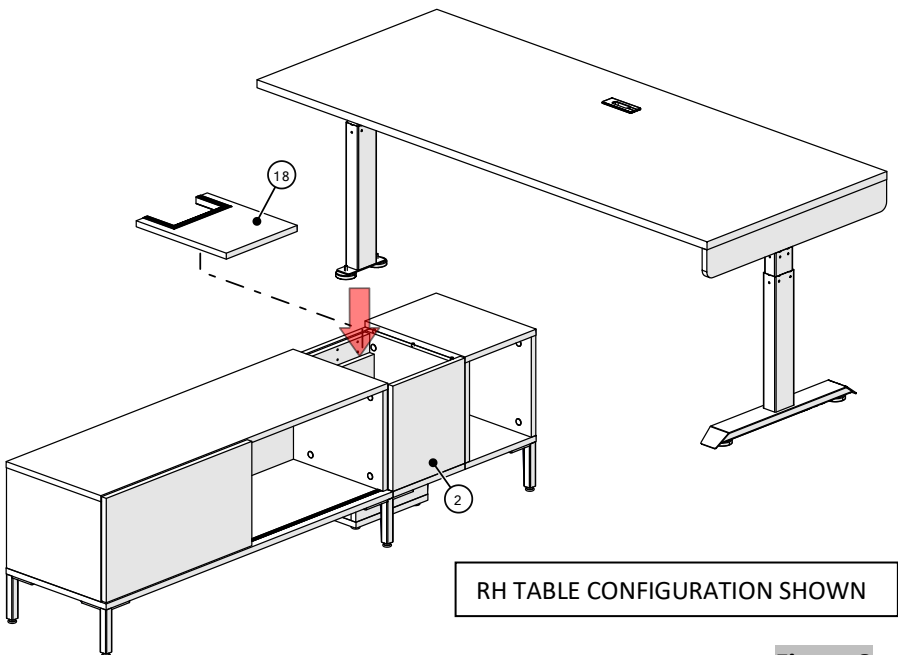

Figure 8
- 12.** Remove the top of the HAT Integrated box top cover (Pull out style). Flip and install desk to the integrated box housing, (Figure 8).